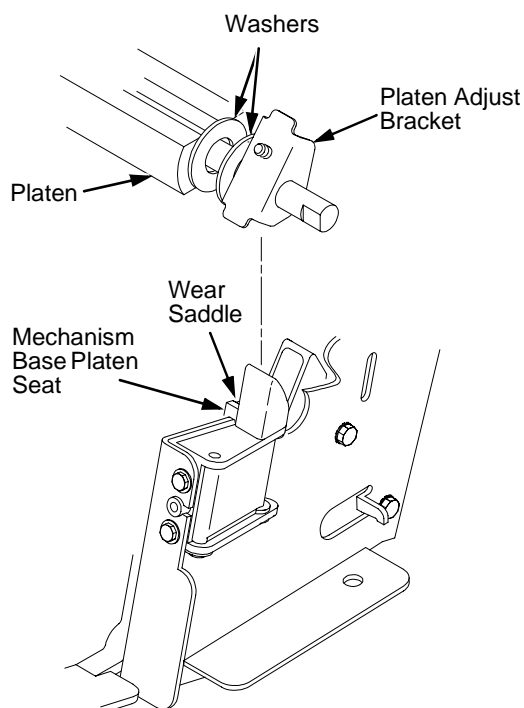

Figure 37. Positioning the Platen Adjust Brackets
4. Make sure the two wear saddles are set flush into the corners of the mechanism base platen seat. (See Figure 37.)